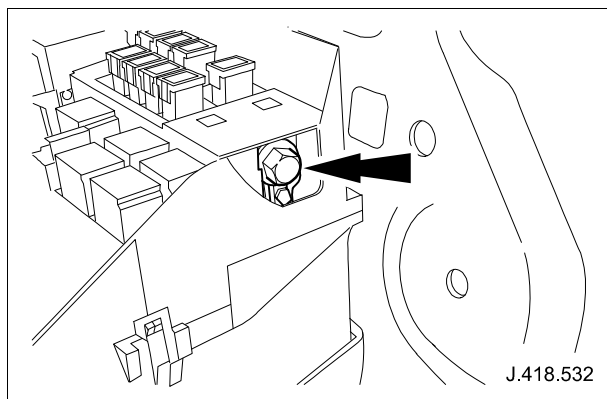

Fig. 20
- 4.8 Check the engine compartment fuse box power lead, as shown in Fig. 20. (Torque tighten to 12Nm \pm 1.8Nm)